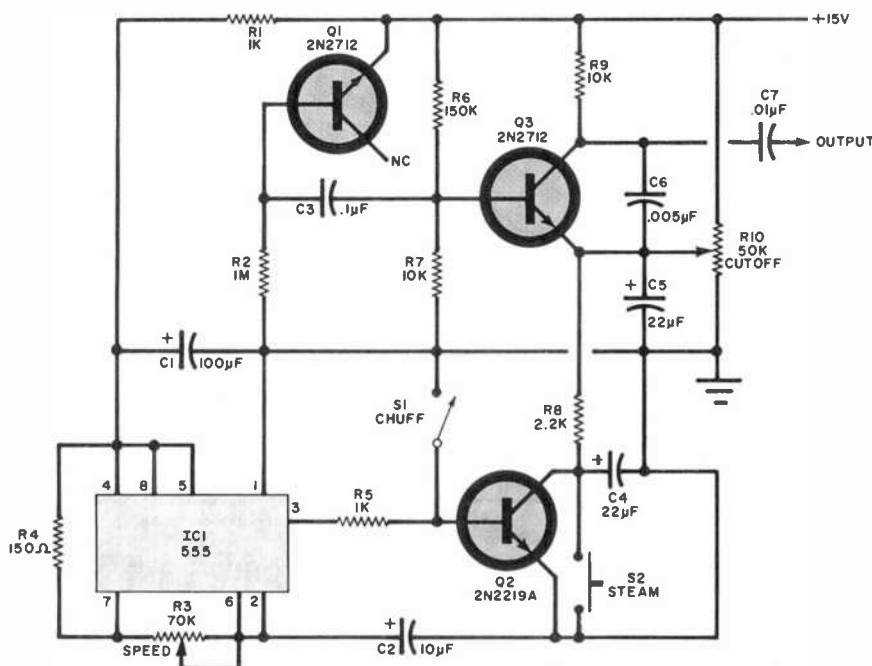

Fig. 2. Steam sound comes from white-noise generator *Q1*.
**Chuff-Chuff.** As shown in Fig. 2, transistor *Q1* is operated in the avalanche mode and generates a steady white noise (hiss) signal across *R2*. This signal is applied to amplifier *Q3*, which is adjusted to a point just below cutoff by *R10*.